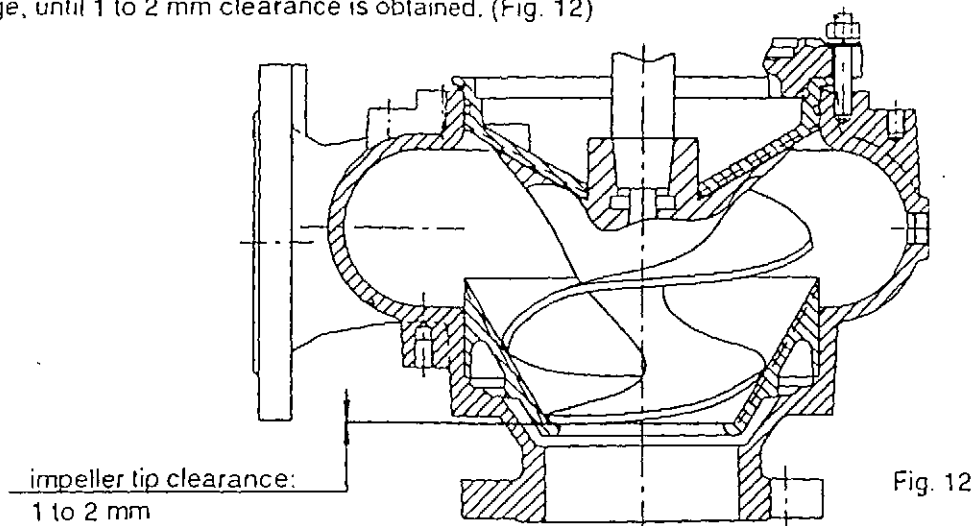

Fig. 12
If the tip of the impeller touches the wear ring (408) or the lip in the liner (or suction cover) or if there is less than 1 mm clearance between the tip and the lip (the spiral edge of the impeller is firmly seated against the conical taper inside the liner or suction cover), then the impeller tip must be ground off, parallel to the suction flange, until 1 to 2 mm clearance is obtained. (Fig. 12)